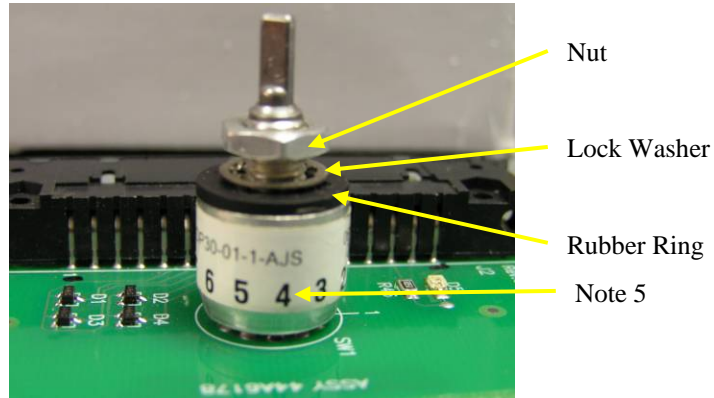

Figure 6: Rotating Switch Side View
7. Once the cap has been removed, loosen the nut shown in Figure 6 that was located under the cap; remove it the lock washer and the rubber ring.
9. Carefully place one of the Switch Stops in the slot between 1 and 12 as marked on the switch indicated by Note 4 in Figure 6. Insert the other Switch Stop in between 5 and 6.